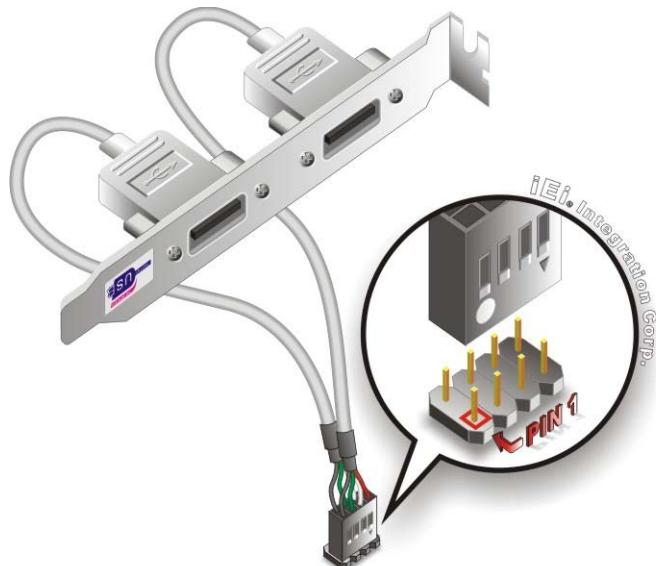

Figure 4-10: Dual USB Cable Connection
**Step 3: Insert the cable connectors** Once the cable connectors are properly aligned with the USB connectors on the KINO-CV-D25501/N26001, connect the cable connectors to the on-board connectors. See Figure 4-10.